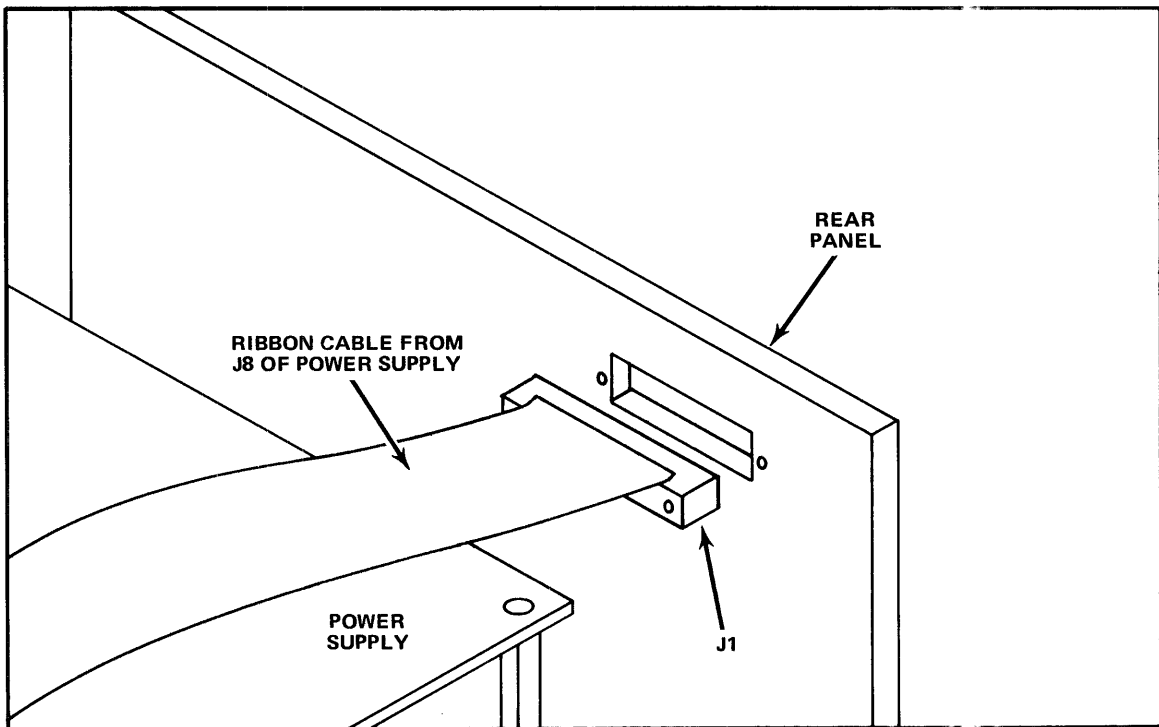

Figure 5-3. Mount J-1 connector on rear panel of main 4907 cabinet.
- g. Mount the plug on the back of the 4907 cabinet with pin 1 to the left as seen from the rear (Fig. 5-3).